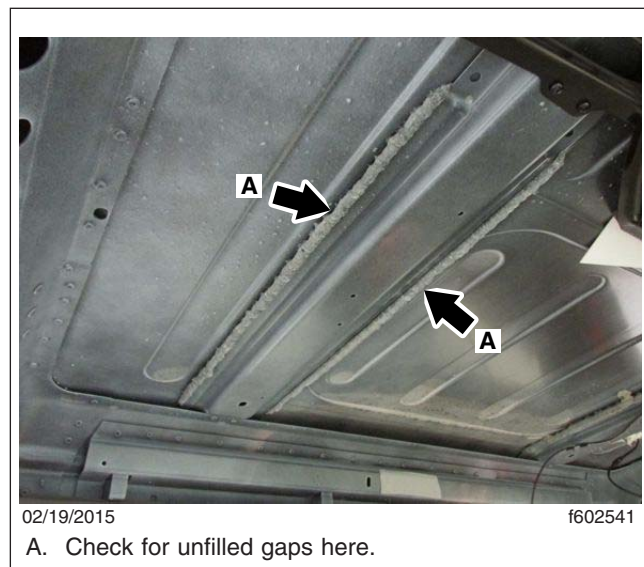

Fig. 2, Roof Bow Inspection
17. Check for unfilled gaps between the roof bows and roof skin. If necessary, fill the gaps with Sikaflex®-252, Sikaflex-255, or similar caulking material to prevent noise. See **Fig. 2**.